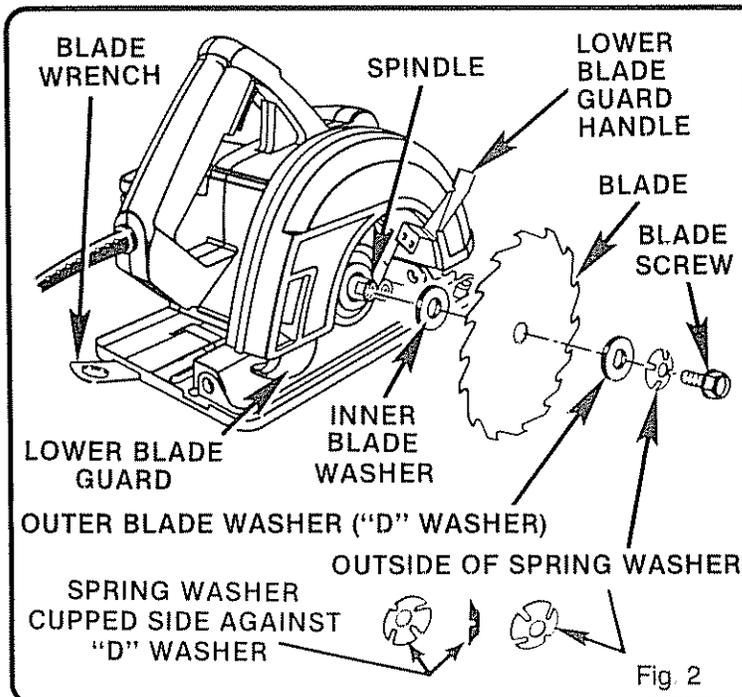

Fig 2
See Figures 2 and 3.
5. Fit saw blade inside blade guard and onto spindle. **NOTE:** The saw teeth point upward at the front of saw as shown in figure 2.
6. Replace "D" washer and spring washer. **NOTE:** "Cupped" side of spring washer goes against "D" washer. See Figure 2.